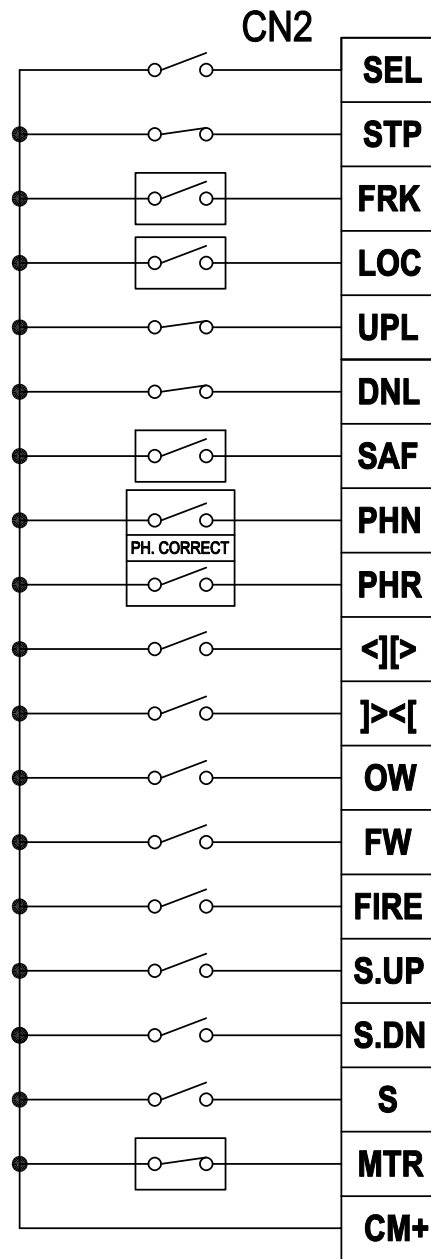

Figure 2.0 - Car and Shaft Connections
The terminals of the Car and Shaft are connected as illustrated in Figure 2.0.
- The Car and Shaft terminals (CN2) are different in contact connections, either NO (Normally Open) or NC (Normally Closed), whether the connections are direct to the XC-12 series or indirect through an external relay as illustrated in Figure 2.0.